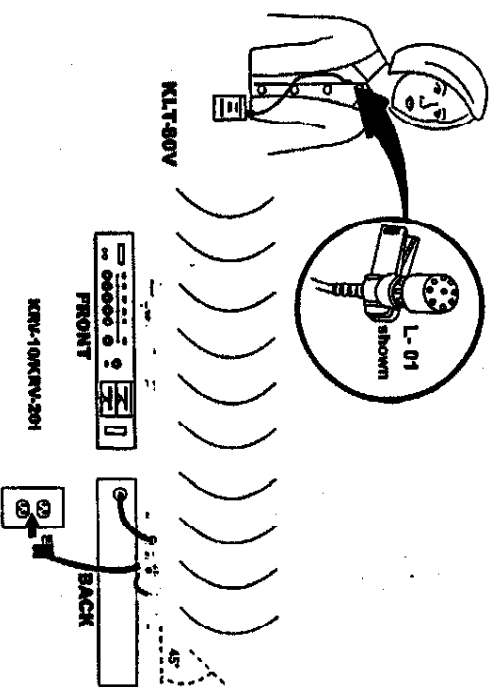

FIGURE 8
1. Refer to Figure 8. Connect the supplied ac power adapter into the DC INPUT connector on the back of the receiver. Insert the adapter's cable into the power cable retainer. ("suit of KR.V-10") Plug the adapter into a wall socket or other AC power source (use HD41N110 for 220VAC, 50Hz power, use HD41N10E for 120V AC, 60-Hz power). Push the power switch on the face of the receiver the red POWER light will glow.
4. Press the L-01 lever microphone into the mounting clip and attach it to your garment. Do not cover the microphone with your clothing, and keep it approximately 8 to 20 inches below your chin. (See Figure 8) Insert the other side into audio socket and fully rotate.